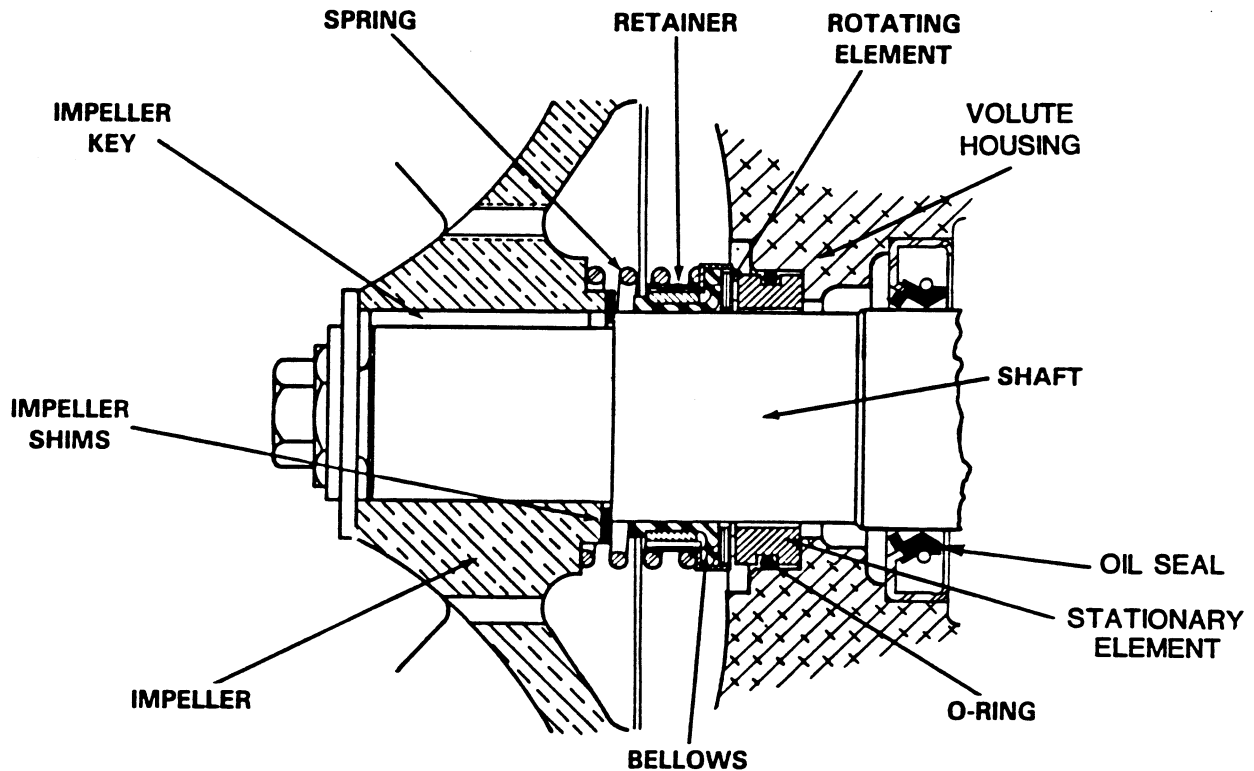

Figure 4. 25271-903 Seal Assembly
Press the gearbox oil seal (11) into the pump casing with the lip positioned as shown in Figure 1 (see Figure 4 for detail of seal area).
To ease installation of the seal, lubricate the shaft and stationary element O-ring with water or a very small amount of oil, and apply a drop of light lubricating oil on the finished faces. Assemble the seal as follows, (see Figure 4).